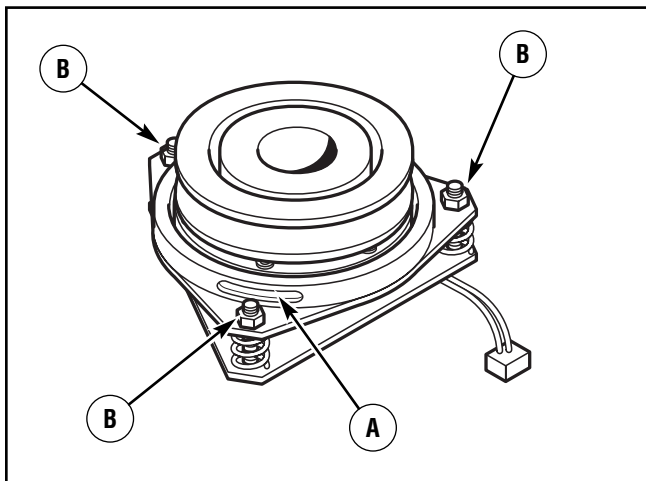

Figure 25: PTO clutch
2. Note the position of the 3 adjustment windows (A, Figures 25 & 26) in the side of the brake plate and the nylock adjustment nuts (B).